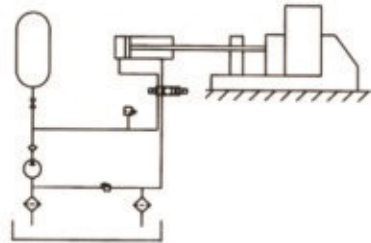

图6 Fig.6
5、当长时间需要恒定静态压力时，蓄能器是必不可少的，因为它将补偿由于接头、密封等渗漏而造成的压力损失，而且能平衡在循环运行过程中可能发生的压力波动。典型用途为夹紧系统（如图6）、负载平台、筑路压力机润滑系统等。
As a constant static pressure is required for a long period, an accumulator is indispensable as it will compensate for pressure loss due to leakage through joints, seals etc. as well as balancing pressure peaks which may occur during the operating cycle. Typical applications are found in closing system(Fig.6), loading platforms, curing presses, machine tools, lubricating systems, etc.